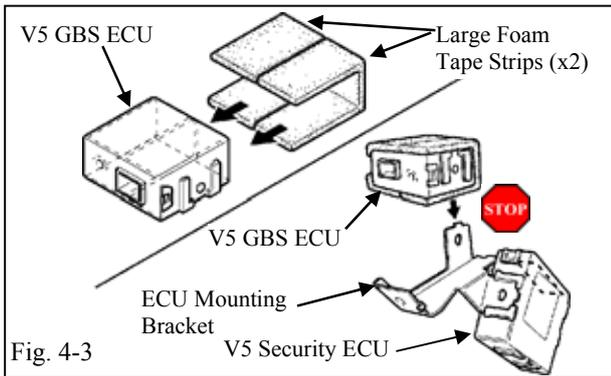

Fig. 4-3
- (c) Apply two large foam tape strips to the V5 GBS ECU as shown. (Fig. 4-3)
- (d) Insert the V5 GBS ECU mounting bracket tab into the indicated bracket slot on the V5 GBS ECU. (Fig. 4-3)
- (1) Insert the mounting bracket into the correct slot; you have only one chance to install it properly.